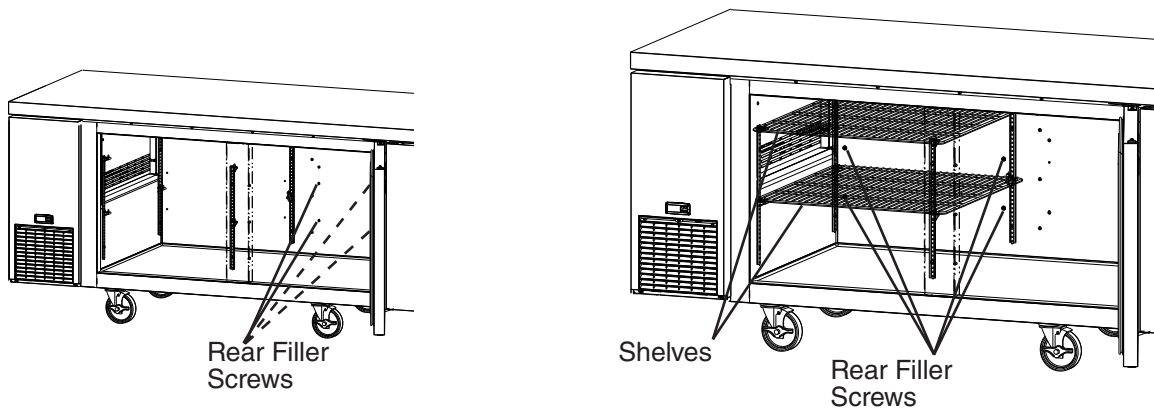

Fig. 22
- 9) Remove the drawer cartridge frame rear filler screws from the new location (current door location). Place the drawer cartridge frame filler screws in the new door location and tighten. Replace the shelves. See Fig. 22.